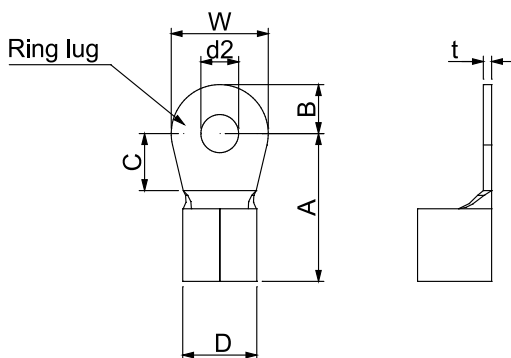
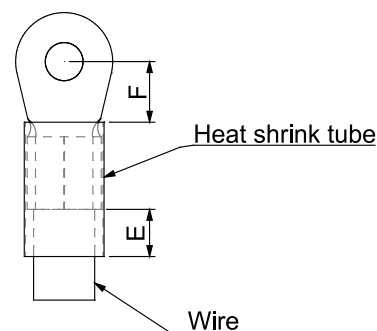

Figure 1.
Figure 2.
- When doing the wiring of the main circuit terminals, use the grounding terminal to increase reliability. For specifications of the grounding terminals, see Figure 1 and Figure 2. For other types of terminals, you can choose the specification yourself.
- After crimping the wire to the ring lug (must be UL approved), UL and CSA approved R/C (YDPU2), install heat shrink tubing rated at a minimum of 600 V_{AC} insulation over the live part. Refer to Figure 2 below.